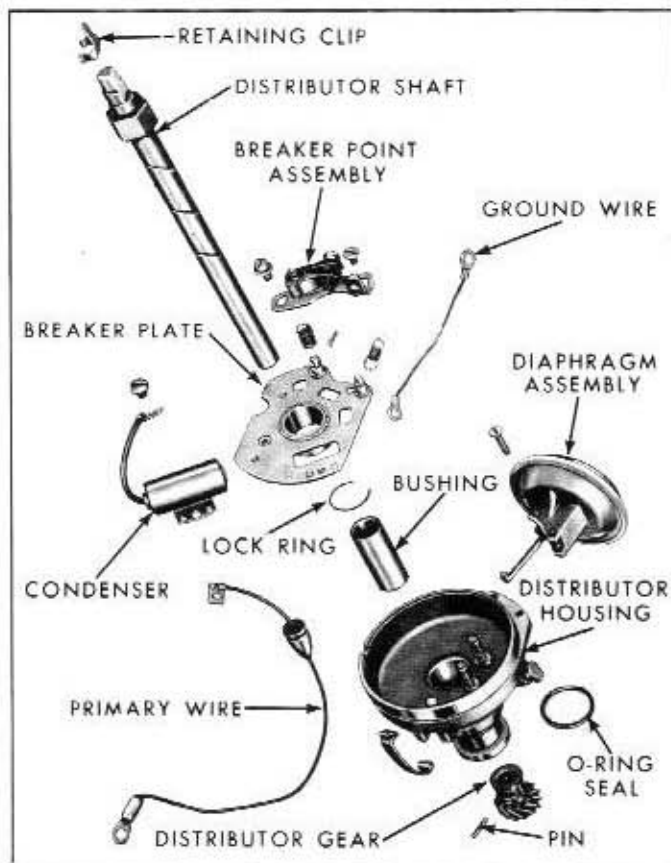

Fig. 10A-59—Distributor Disassembled—(60C-7716)
8. Remove the distributor from the vise. Remove the distributor cap clamps. If a solid-type drive gear pin is used, file the peened end from the pin. Drive out the pin with a punch (figure 10A-60).